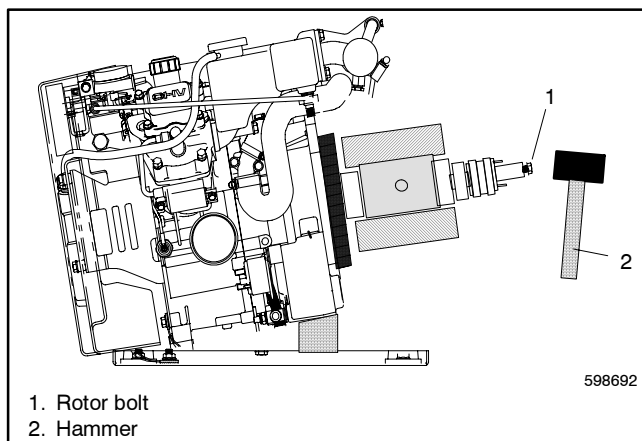

Figure 9-4 Removing the Rotor
22. Strike the bolt with a hammer until the rotor is freed from the engine tapered drive shaft. Do not damage through bolt threads or bolt head. See Figure 9-4.